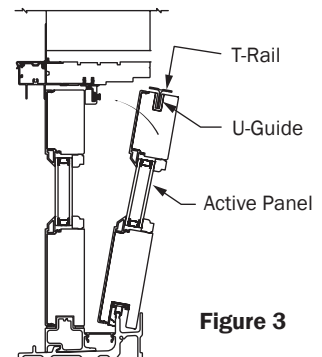

Figure 3
4. Starting with one of the operable panels, place the corresponding side's T-Rail into the U-Guide at top of panel (Figure 3).
5. Lift the bottom of the panel with the rollers onto the roller track and tilt upright into place (Figure 3).